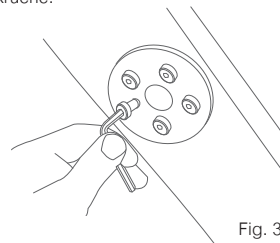

Fig. 3
STEP 3: Use hex key (E) to tighten each screw securely as shown in fig. 3 to finish the ringbase.